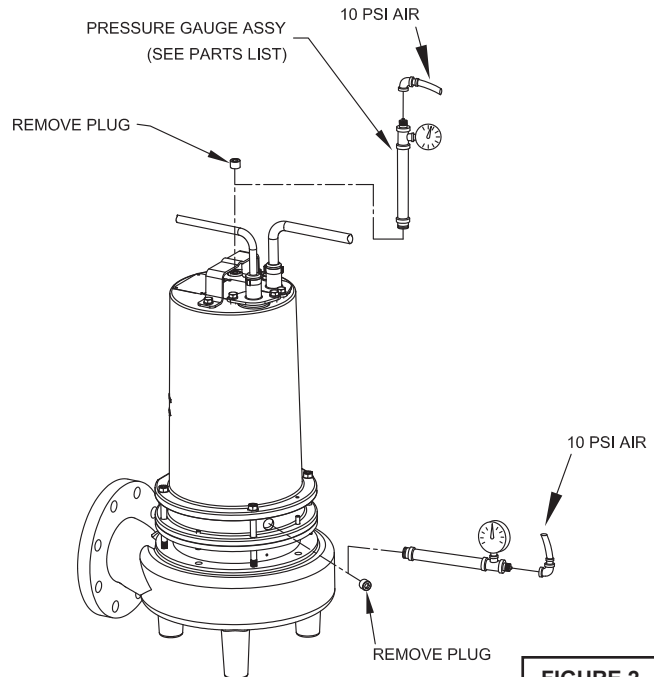

FIGURE 2
**Pumps that have had the oil drained from the Motor Housing** - Apply pipe sealant to pressure gauge assembly and tighten into pipe plug hole (See Figure 2). Pressurize motor housing to 10 P.S.I. Use soap solution around the sealed areas and inspect joints for "air bubbles". If, after five minutes, the pressure is still holding constant, and no "bubbles" are observed, slowly bleed the pressure and remove the gauge assembly. Replace oil as described in section F-1.4. If the pressure does not hold, then the leak must be located and repaired.
**Pumps that have NOT had the oil drained from the Motor Housing** - The pressure test may be done with the oil at its normal level. Remove pipe plug (5) from motor housing (2). Apply pipe sealant to pressure gauge assembly and tighten into hole (see Figure 2). Pressurize motor housing to 10 P.S.I. Use soap solution around the sealed areas above the oil level and inspect joints for "air bubbles". For sealed areas below the oil level, leaks will seep oil.
**Motor Housing** - Set unit upright and refill with new cooling oil as per Table 1 (see parts list for amount). Fill to just above motor as an air space must remain in the top of the motor housing to compensate for oil expansion (see Figure 2, 12 or 14). Apply pipe thread compound to threads of pipe plug (5) then assemble to motor housing (2).
**Seal Chamber** - Set unit on its side, with plug (5) upward, and refill with new oil as per Table 1 (see parts list for amount). Apply pipe thread compound to threads of pipe plug (5) and assemble to bearing bracket (21).